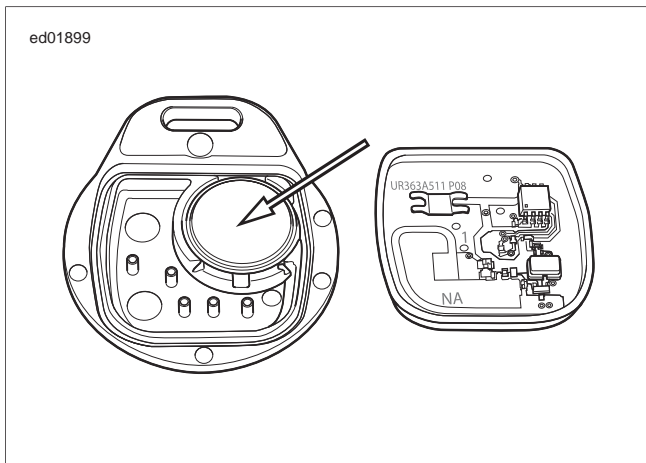

Figure 5-23. Key Fob Battery: TSSM
- See Figure 5-23. Verify that antenna is in OE location and that seat has not been replaced with a metal base seat.